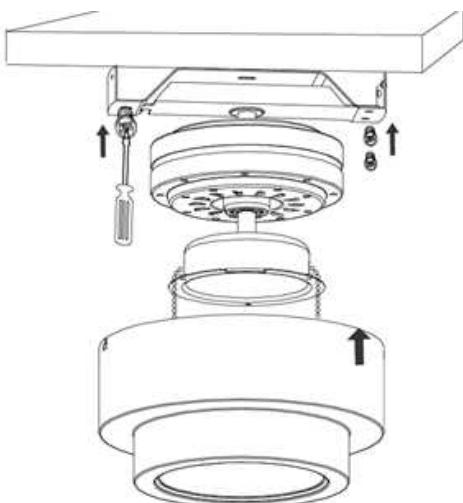

Fig. 6
- Fix the motor bracket to mounting bracket with 3 screws. Fig.6